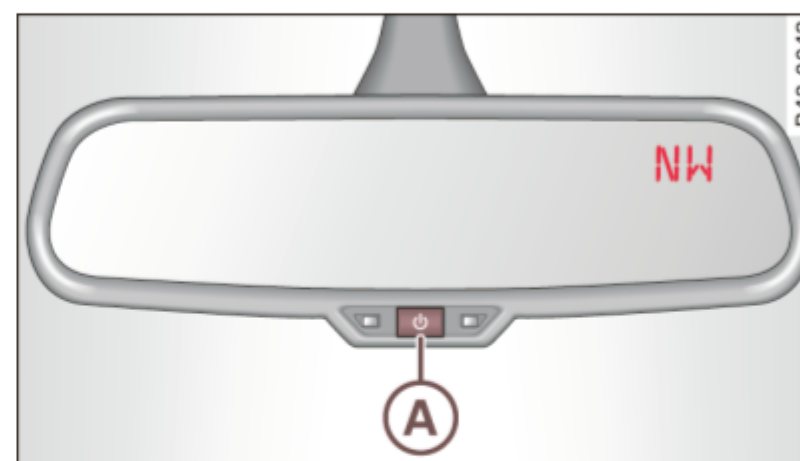

Fig. 53 Inside rear-view mirror: digital compass activated
- Hold the **(A)** button $\Rightarrow$ page 61, fig. 53 down until the number of the set magnetic deflection zone appears on the interior rear view mirror.